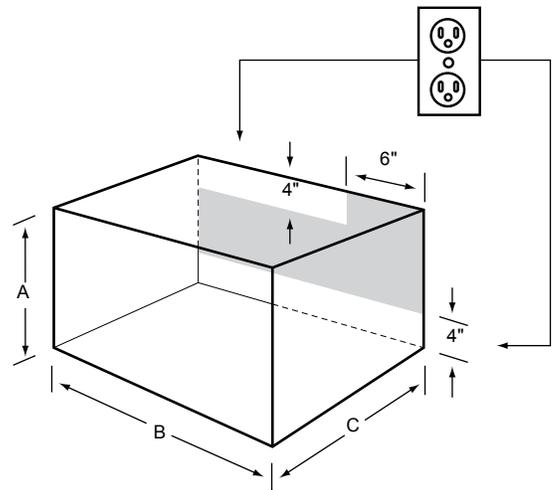

Figure 1
Provide an opening in the wall or cabinet as indicated on figure 1. The depth should be a minimum of 20". The floor of the opening should be constructed of plywood strong enough to support the weight of the oven (about 100 lbs.) and should be level for proper operation of the oven. See page 4 for cutout/cabinet spacing.
This outlet should not be located in the shaded area of figure 1. If the dimension of DEPTH (C) is more than 21" (53.3 cm), the outlet location may be any area on the rear wall. At the rear of the opening, provide a 3-pronged, polarized, electrical outlet, 115-120 volt A.C., 15 Amp. or larger.